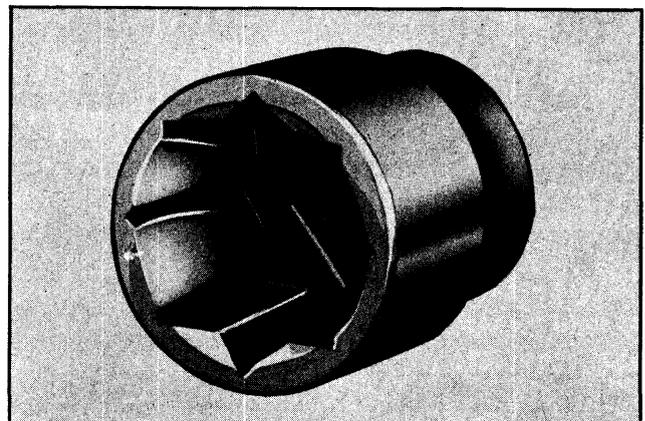

Fig. 16-5 Modified Socket
**NOTE:** A special socket for removing hinge link bolts can be made from a 3/4" 8-point socket. Remove two points on each side by grinding as shown in Fig. 16-5.